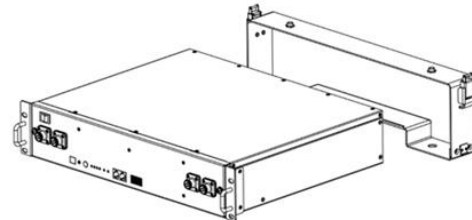

Figure3-4
- Place the B4850 and a bracket as shown in the figure3-4, and insert the B4850 into the bracket.